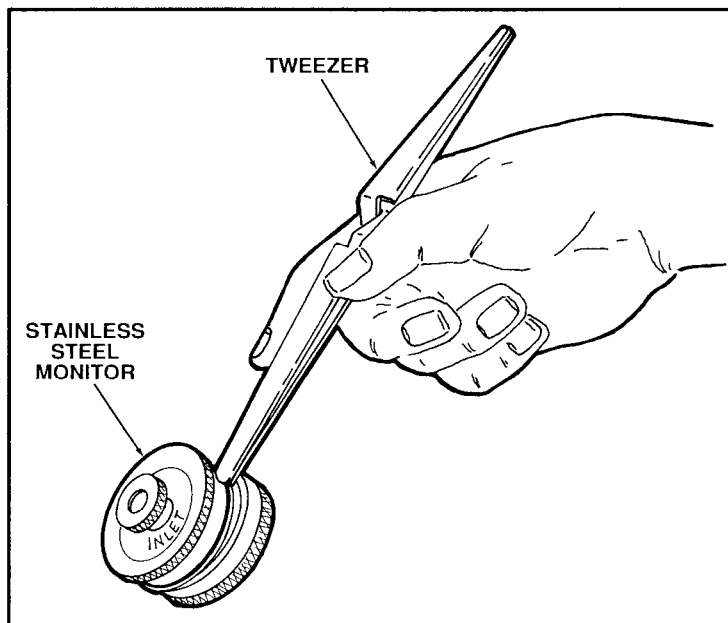

Figure 2.28 Removing Stainless Steel Monitor Top
- a. Pry open the top of the stainless steel monitor using the back end of the tweezers (Figure 2.28).